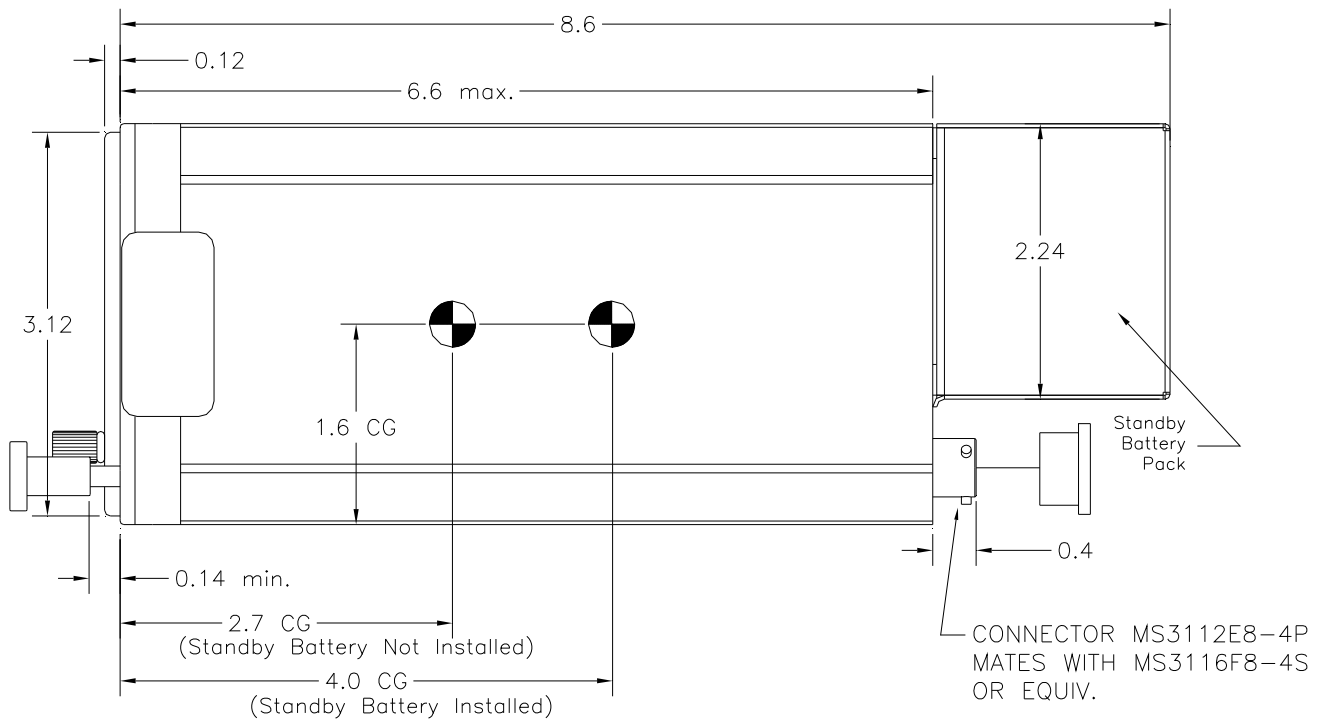

Figure 2.1 Outline Drawing
- A. Refer to Figure 2.1 for installation dimensions and electrical information.